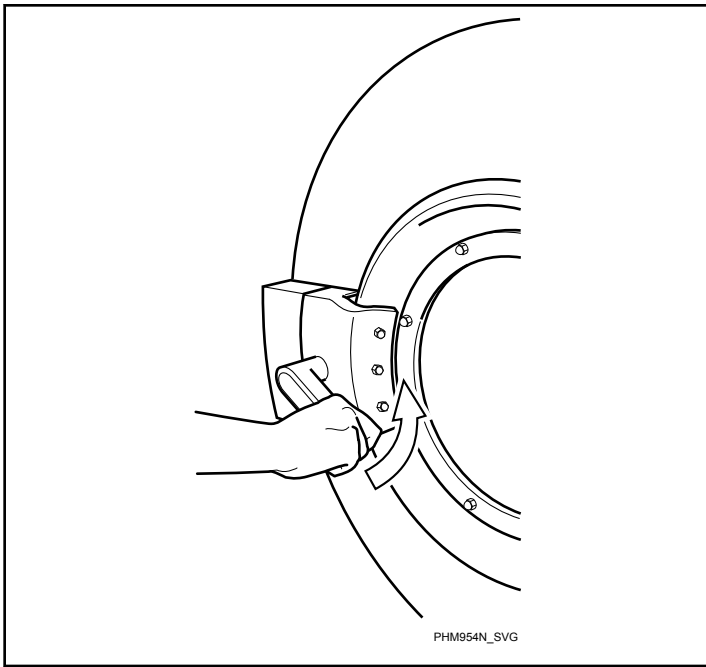

Figure 34
4. Close the door by rotating the handle counterclockwise. Refer to *Figure 34*.